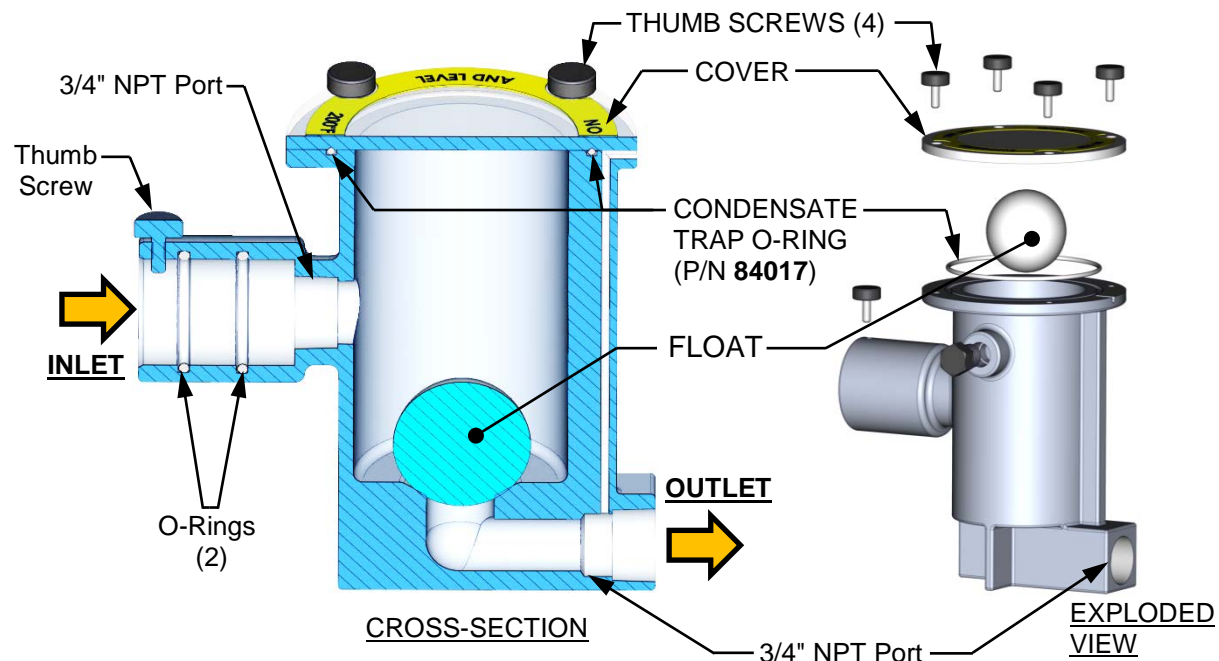

Figure 4-7: External Condensate Trap – Cross-Section & Exploded View
1. Disconnect the external condensate trap by loosening and then removing connections on the inlet and outlet sides of the condensate trap (see Figure 4-7).
2. Loosen the four (4) thumbscrews securing the trap's cover and then remove the cover and the O-ring from under the cover.